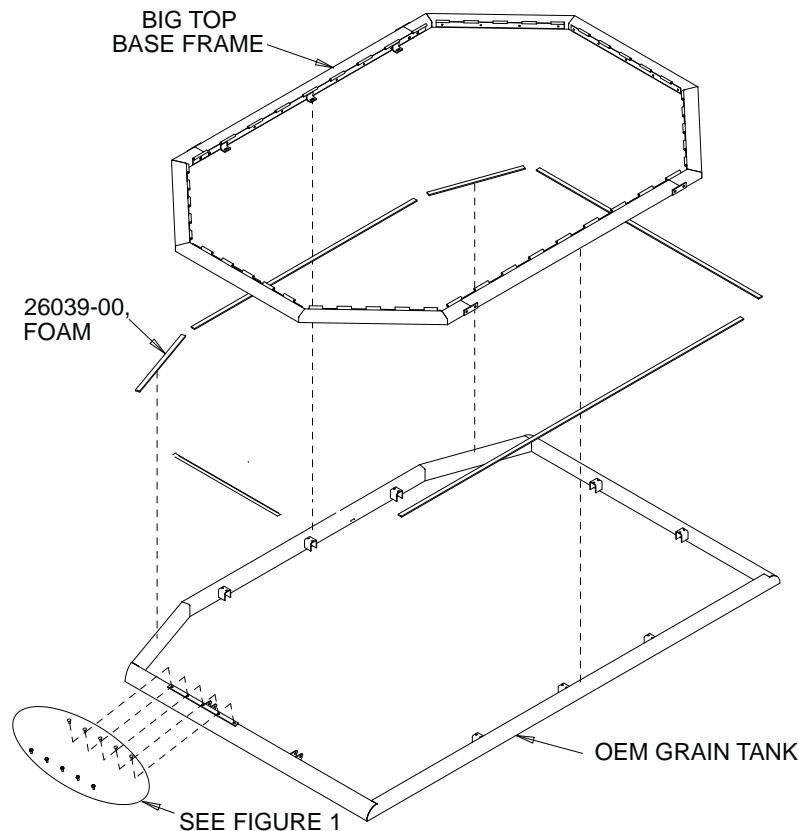

Figure 2
3. Install foam around the base of the Big Top as shown in Figure 2. The foam is intended to seal the gaps between the Big Top frame and the combine hopper. No foam is required on top of the connector strap. NOTE: When installed correctly, only about 3/4" of the frame (on the left and right sides) will be resting on top of the OEM grain tank.
1. Slide the four base sections together as shown (See Figure 2). Bolt the sections together with 3/8" x 4" bolts and nuts. The base sections will only fit together one way.